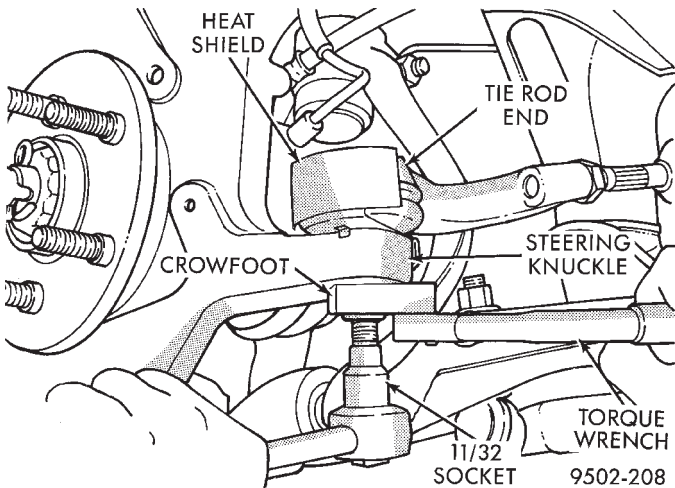

Fig. 20 Torquing Tie Rod End Attaching Nut
(12) Install tie rod end into steering knuckle. Start tie rod end to steering knuckle attaching nut onto stud of tie rod end. While holding stud of tie rod end stationary, tighten tie rod end to steering knuckle attaching nut (Fig. 6). Then using a crowfoot and 11/32 socket, torque tie rod end attaching nut to 61 N·m (45 ft. lbs.) (Fig. 20).